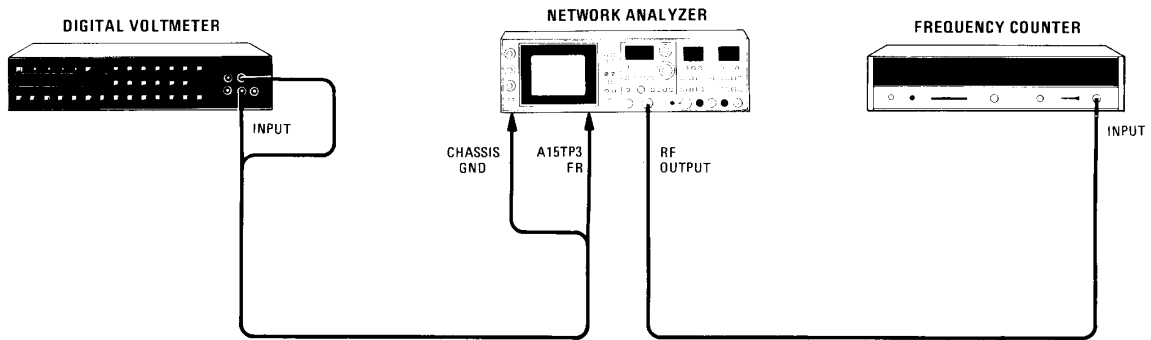

Figure 5-9. Frequency Accuracy and Sweep Width Adjustment Test Setup
- a. Connect equipment as shown in Figure 5-9.
- f. Reduce SWEEP WIDTH to 0 (CW). If necessary, readjust TUNING for 0.000V at A15TP3.
- j. Connect equipment as shown in Figure 5-9. Set A15S1 NORM-TEST switch to TEST position. Allow instrument warmup time of 30 minutes.